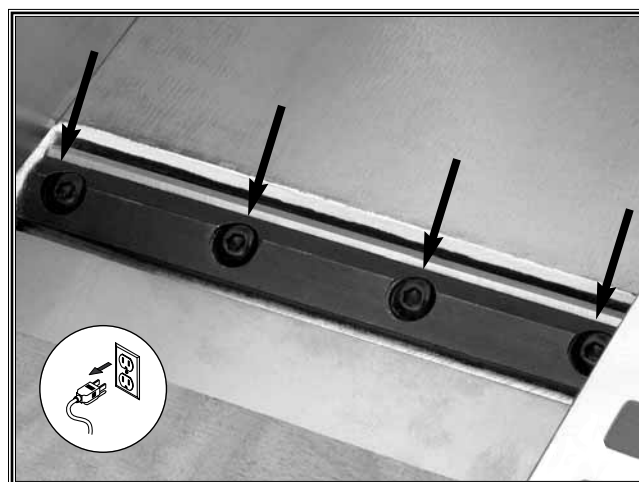

Figure 27. Blade clamp screws.
6. Loosen the four blade clamp screws that secure the blade in the cutterhead (**Figure 27**).